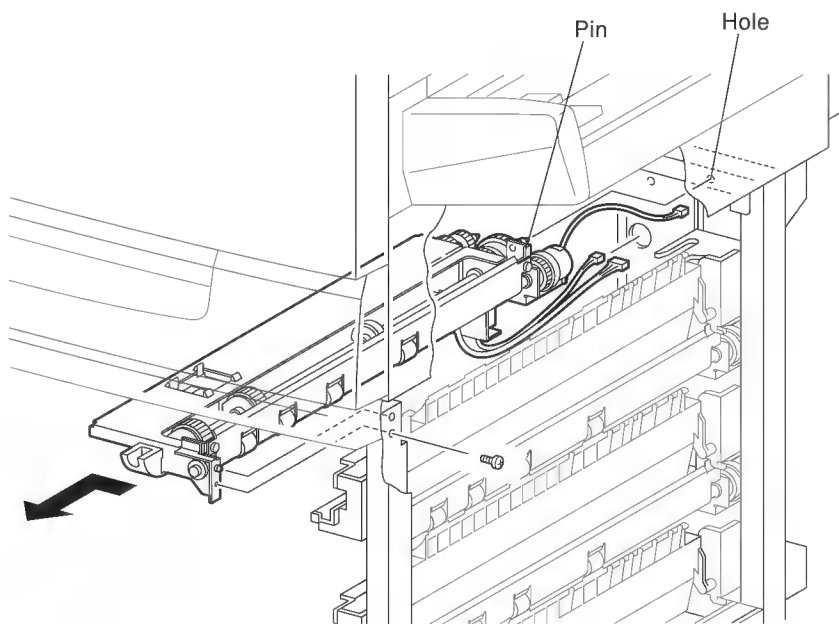

Figure 2
6. Remove the screw securing the LCIF Drive Assembly to the front-right of the LCIF frame (Figure 2).